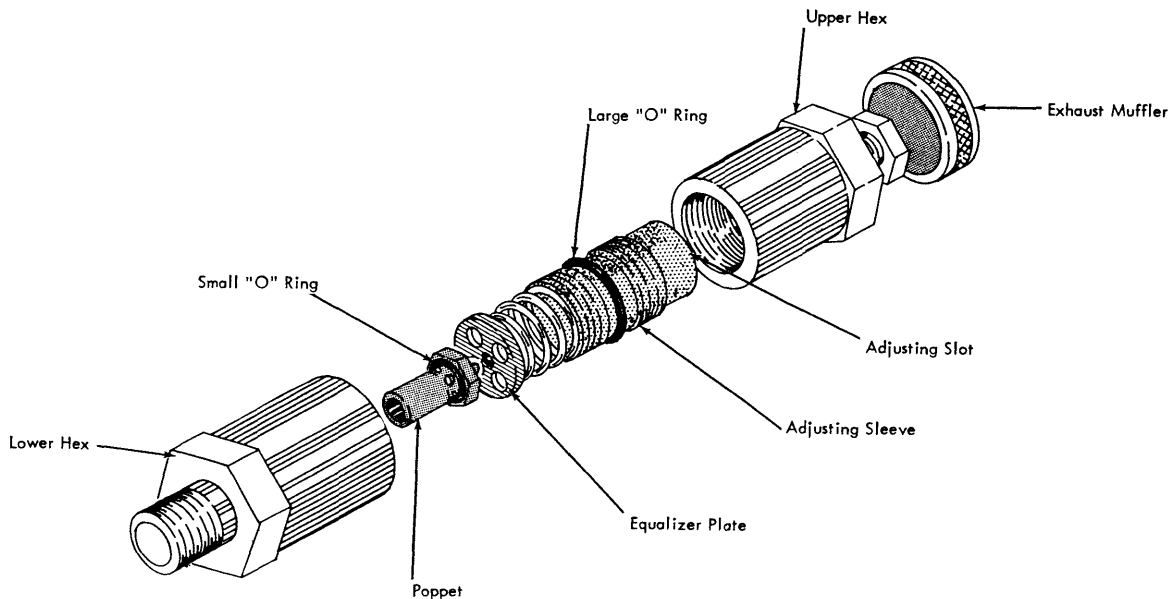

Figure 83. Relief Valve (B and G)
### Relief Valve (Figure 83)
2. Replace equalizer plate above poppet making sure that the center flat-surfaced boss is on top (See Figure 83).